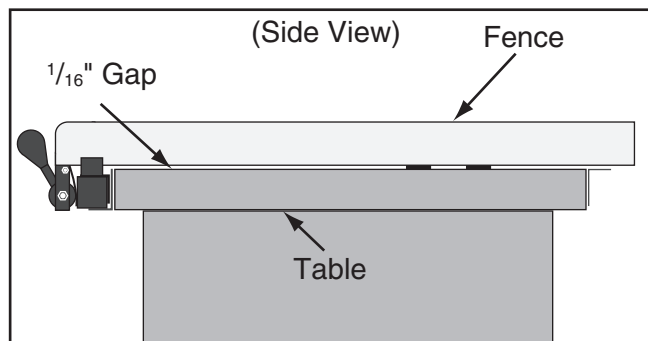

Figure 121. Gap between fence and table approximately $\frac{1}{16}$ " from to back.
- If gap is approximately $\frac{1}{16}$ " and even from front of table to back (see **Figure 121**), then no additional adjustments are necessary. Proceed to **Clamping Pressure and Parallelism**.
4. Loosen rail mounting bolts and adjust rails as needed until fence rides smoothly, gap is approximately $\frac{1}{16}$ ", and is even from front to back (see **Figure 121**).
- If fence drags across table, then loosen rail mounting bolts and adjust rails just enough so gap between fence and table is even from front to back (see **Figure 121**). Tighten rail mounting bolts.